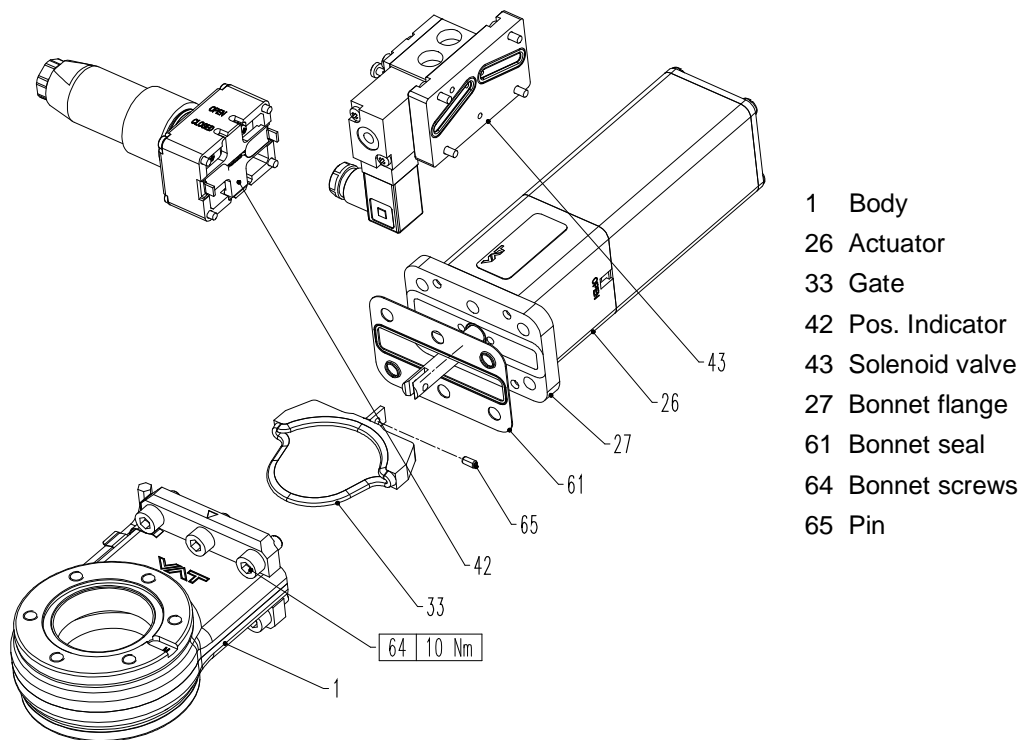

Figure 6-1
5. Remove bonnet screws (64); see «Figure 6-1» on page 17.
6. Withdraw actuator / mechanism unit carefully from body; see «Figure 6-1» on page 17.
7. Clean gate seal (33) and replace bonnet seal (61); see «Figure 6-1» on page 17.
8. Clean seat and bonnet seal surface of the valve body (1); see «Figure 6-1» on page 17, with cleanroom wiper.
10. Mount screws (64) according to «Figure 6-1» on page 17.
11. Tighten screws (64) in crosswise order (from inside to outside) with a torque of **10 Nm / 7.4 lbf · ft**.
16. Insert pin (65) using 3 mm punch tool.
17. Release tool (57) from shaft.
18. Make sure that pin (65) is fully inside the shaft and does not protrude.
19. Clean bonnet seal surface and replace bonnet seal (61); see «Figure 6-1» on page 17.
21. Mount screws (64) according to «Figure 6-1» on page 17.
22. Tighten screws (64) in crosswise order (from inside to outside) with a torque of **10 Nm / 7.4 lbf · ft.**